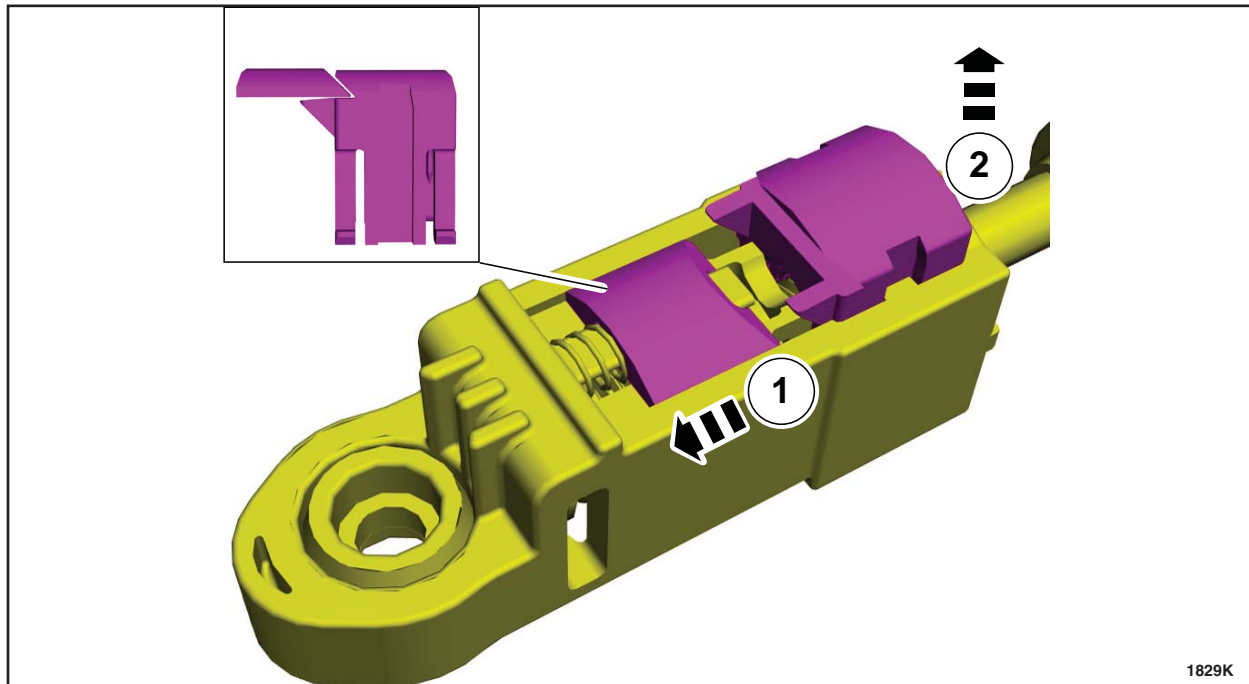

FIGURE 12
13. Release the selector lever cable adjuster lock. See Figure 12.